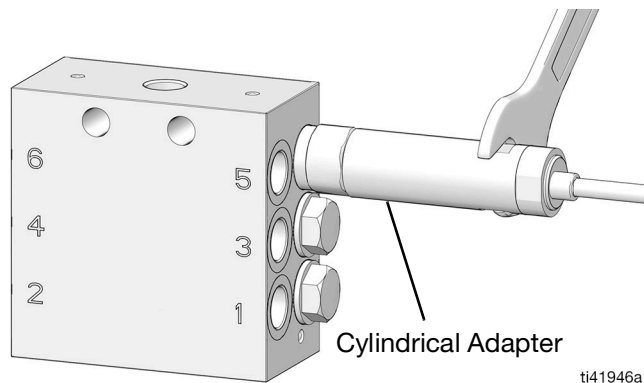

FIG. 6: Series A CSP Valve
- For Series A CSP Valves: torque to within 25 to 30 in-lbs (2.8 to 3.4 N•m) (FIG. 6).